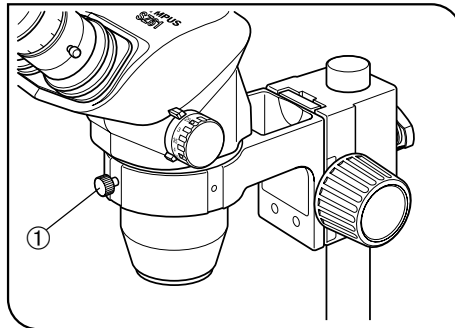

Fig. 4
**2 Attaching the Microscope Frame** (Figs. 4 & 5)